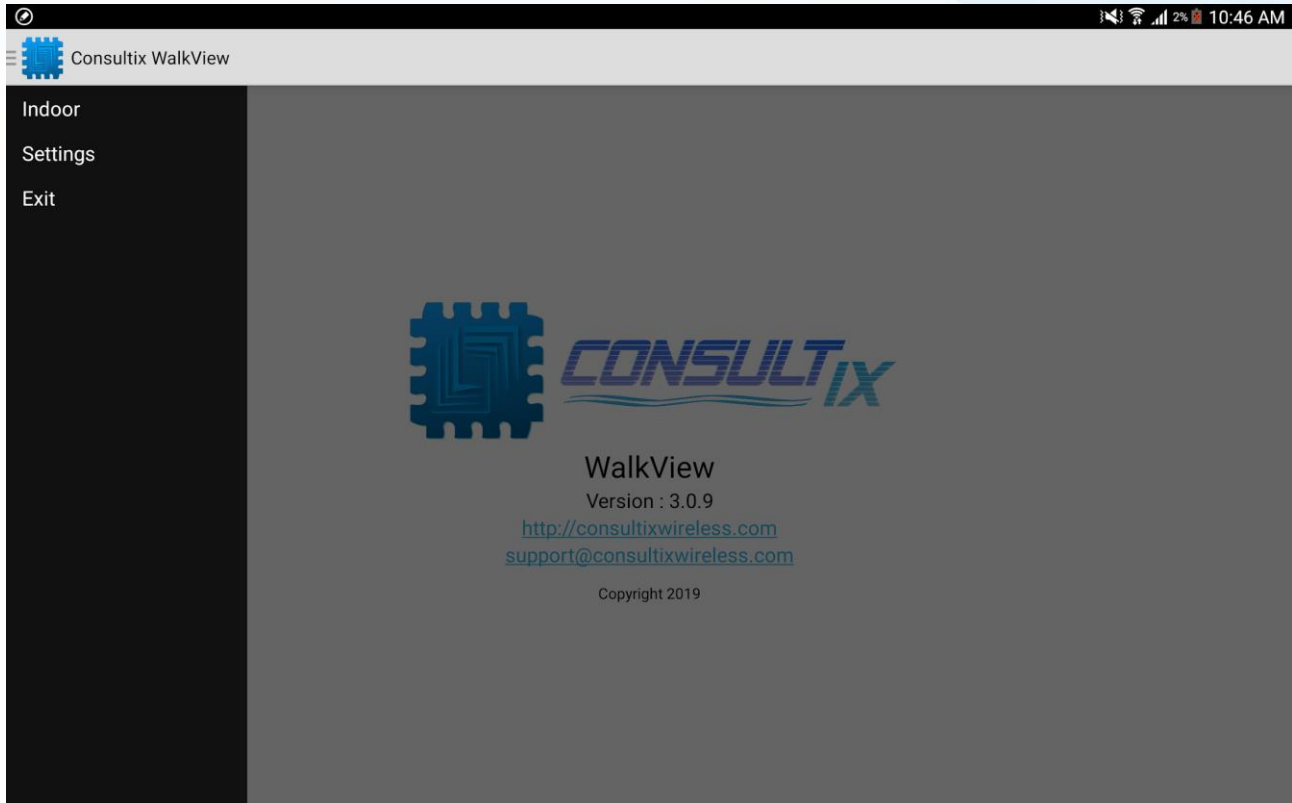

Figure 4: WalkView Main Window
1. On Consultix WalkView Main Window, tap Consultix Logo at the upper-left corner then choose “Settings” to configure the WalkView settings as depicted in Figure 4 below